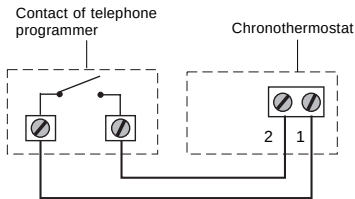

Fig. 5.i
- Make the electrical connections to the contacts on the telephone programmer (if provided) as shown in figure 5.i, paying particular attention that the cabling does not interfere with the correct closing of the body.